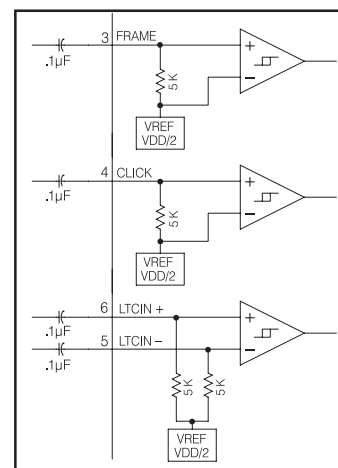

Fig. 8 - Self Biased Inputs
1. Figure 8 “Self Biased Inputs” Diagram on page 15: